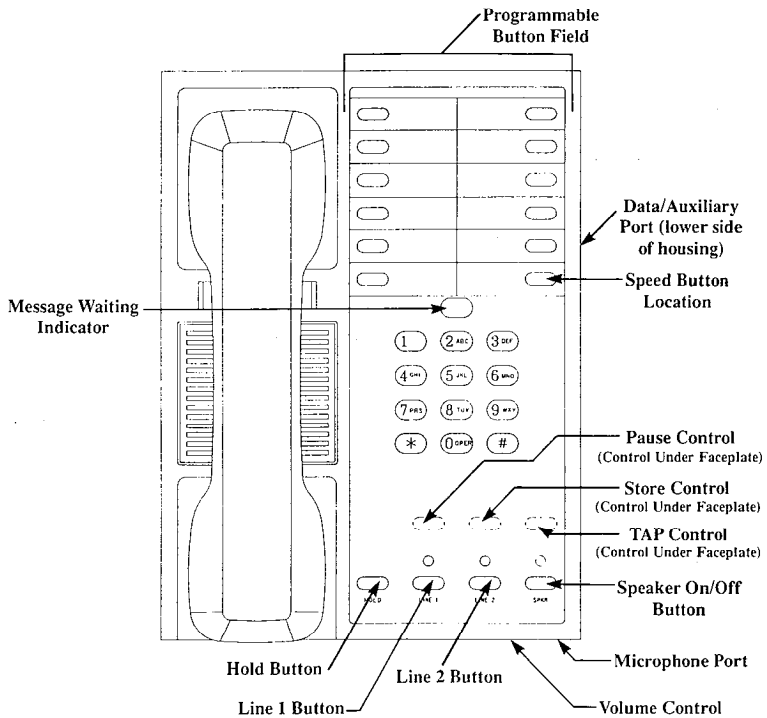

Figure 2. Model 3910S HoTelephone Controls and Indicators
Operating these single-line telephones (Figures 2 and 3) is straightforward and easy.
3. If needed, adjust loudness of caller's voice with volume control located in front edge of telephone (Figure 2).
All 12 programmable buttons may be used for number storage, or you may use 11 programmable buttons for number storage and store a SPEED button function in the lower right-hand programmable button location (Figures 2 and 3). The SPEED button lets you store additional numbers using keypad locations. Memory contents are protected by a long-life lithium battery, which provides memory-retaining power for approximately seven years.
2. Refer to Figures 2 and 3 for the actual location of the controls for PAUSE, STORE, and TAP.
1. Press **STORE**, *****, and **lower right-hand programmable button** (Figures 2 and 3).